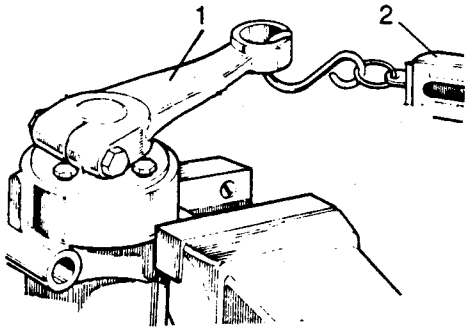

Fig L5.17
(17) Refer to Fig L5.17. Hold the relay in a vice.
(18) Temporarily attach the upper relay lever (1) and use a suitable spring balance (2) to check resistance to rotation of the relay shaft. The resistance, measured on the spring balance, must not be less than 5,4 kg and should not exceed 7,3 kg.
(19) If the resistance is less than 5,4 kg, fit a new spring.
(20) If the resistance is excessive, remove the oil seal retainers and thrust washers, then use a suitable piece of tube to push each split bush in turn clear of its cone and inject lubricating oil. Reassemble and recheck.
(21) Fit the assembly to the vehicle (see Sub-section L4, Chapter 4).